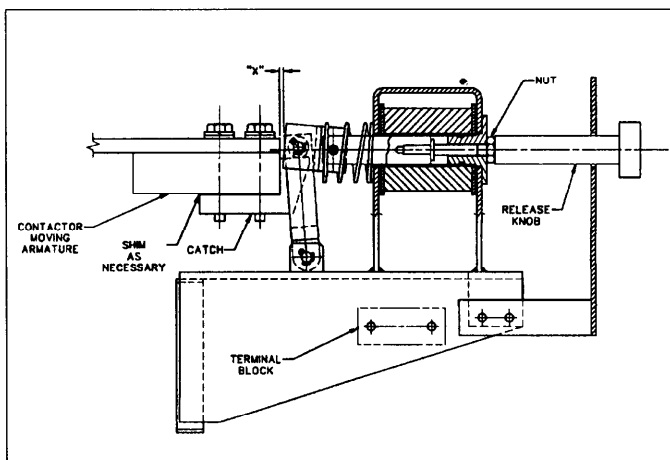

Figure 16. Cross-sectional view of CR193B and CR193C latch.
2. Mount the latch mechanism to the contactor using the two (2) latch-mounting screws supplied. The latch mounts directly to the center mounting post of the contactor coil. The latch-mounting plate is provided with a clearance hole for the center-mounting screw on the contactor coil.
3. Assemble the catch (see Figure 16) to the contactor moving armature using one each 0.010", 0.030" and 0.060" shims and the hardware provided.
4. Connect the control wires to the unlatch coil terminal block on the side of the latch mechanism support bracket (see Figure 16).
5. Close the contactor electrically and allow to latch closed. Note that both the main closing coil and the unlatch coil have to be deenergized after operation to prevent coil overheating. With main coil deenergized, measure gap between centerline of contactor moving armature and the main coil pole faces. Desired range for this separation between pole faces is 0.009" to 0.013". If outside this range, manually unlatch contactor, then add or remove shims as required to meet desired range (see Figure 16) and repeat measurement.
6. With contactor still latched closed, energize main coil. Set nut and release knob (see Figure 16) so that dimension "X" is equal to 0.060" +/- 0.005". Deenergized main coil.